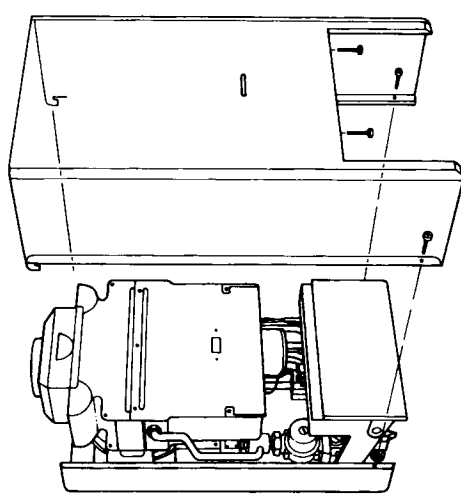

Fig. 19
6.15.1 Refixing the Front Cover (fig. 19)
Slide the casing downwards to fully engage the hooks and to align the bottom fixing holes. Replace the four case retaining screws. (fig. 19).